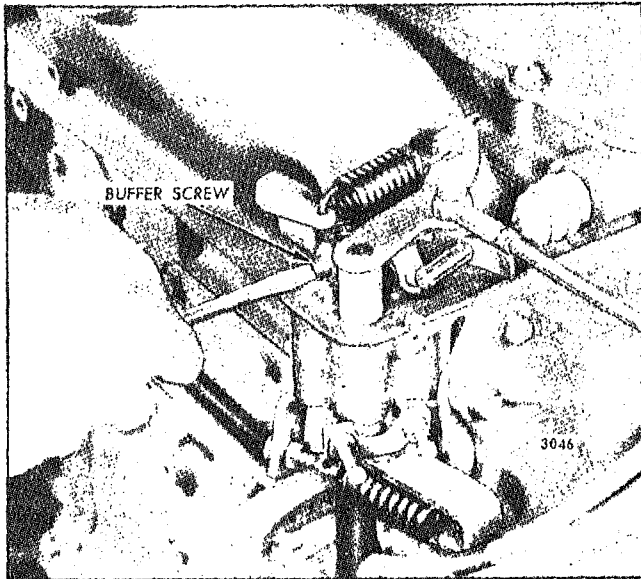

Fig. 7 - Adjusting Buffer Screw
1. With the engine running at idle speed, turn the buffer screw in (Fig. 7) so that it contacts the stop lever as lightly as possible and still eliminates engine roll.